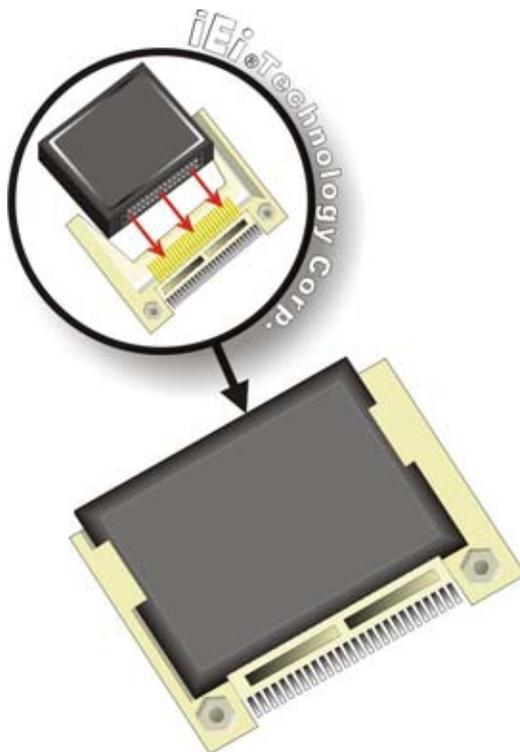

Figure 4-2: CF Card Installation
- Step 7:** **Insert the CF card.** Gently insert the CF card into the socket making sure the socket pins are properly inserted into the socket. See Figure 4-2.